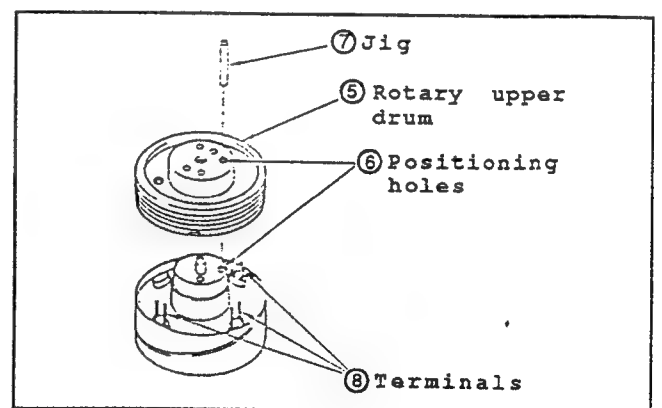

Fig.II-29
- (1) Clean the flange surface and the rotary upper drum (5) surface which faced the flange surface. Check that there is no dust particles and flaws.
- (2) Insert the jig (7) into the drum positioning holes of upper/lower rotary drum. (Fig.II-29)
*Note: At this time confirm that the terminals (8) come out from the holes of the rotary upper drum C.B.A..